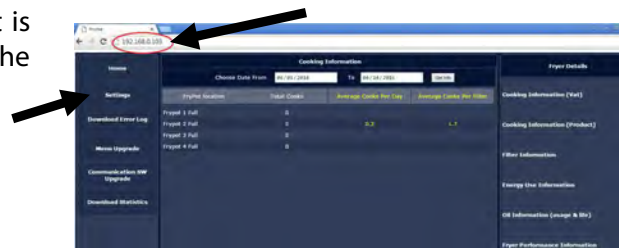

Figure 2
7. Type in the IP address in the internet browser (It is recommended to use **Google Chrome**.) to start the dashboard Figure 2).
8. The dashboard should display (see Figure 2).
9. Click on Settings towards the upper left corner of the screen (see Figure 2).